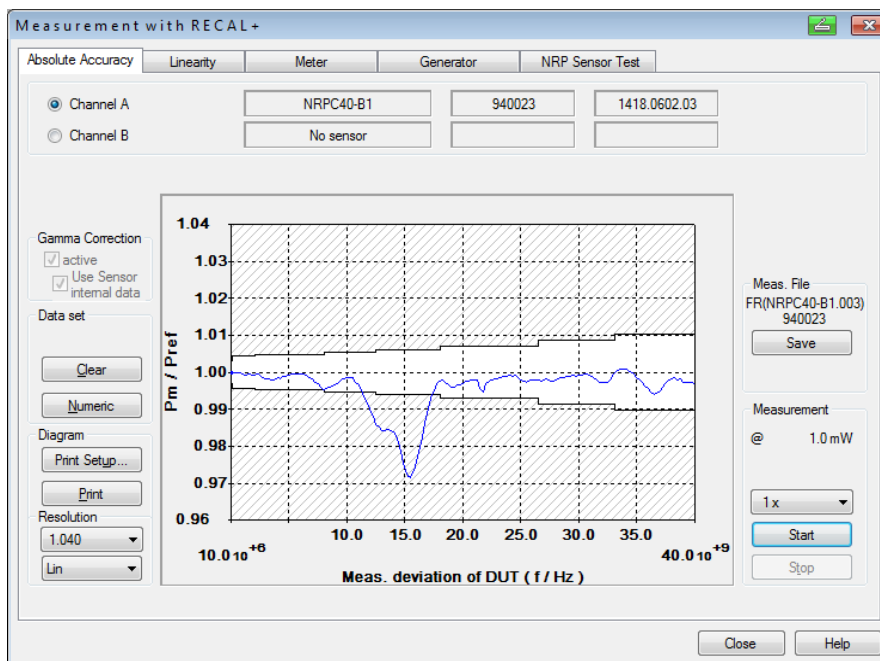

Fig. 4-1 Verification result for an R&S®NRPC40 power standard following damage to the RF connectors
Perform one or more measurement cycles (depending on requirement); otherwise proceed as described under **Checking the Absolute Accuracy**. The averaged trace must lie within the tolerance band shown in the graphical display. The tolerance limits are significantly tighter compared to a normal thermal sensor. If the trace rises or falls uniformly over all of the frequency range, this indicates a change in the sensitivity of the power standard or the verification sensor. An oscillating frequency response as seen in Fig. 4-1 indicates that the matching conditions on the RF connection have changed. In this case, a visual inspection is necessary and the connectors should be cleaned. If the ripple does not disappear despite cleaning the connectors of the verification sensor and the power standard, the RF connector for the power standard can be exchanged with the supplied replacement adapter ②. For a description of the steps required to do this, see the appendix under **Exchanging the RF Connector at the Test Port of the Power Standard**.